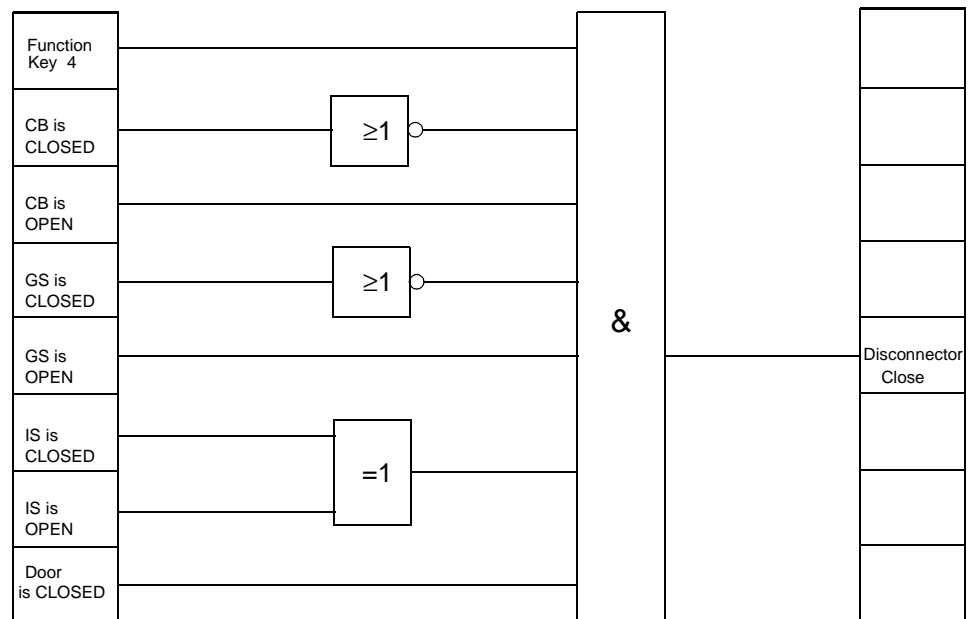

Figure 5-38 Interlocking an disconnect switch as an example of a user defined interlock protective function
Interlocking logic (see Figure 5-38) is to be implemented for the operation of an isolating switch using function key 4. The user must take the switch position indications of the corresponding isolation switch and the grounding switch into account. The CLOSE and TRIP indications from the auxiliary contacts of each switch are used.
- The CLOSE indications from the circuit breaker (CB) and from the grounding switch (GS) are supplied to the inputs of the NOR functions.
- The OPEN indications from the circuit breaker (CB) and from the grounding switch (GS) are supplied to the inputs of the AND function.
- The switch position indications from the disconnect switch (IS) are linked to the inputs of the XOR function.
- Function key 4 is linked with an input of the AND function.